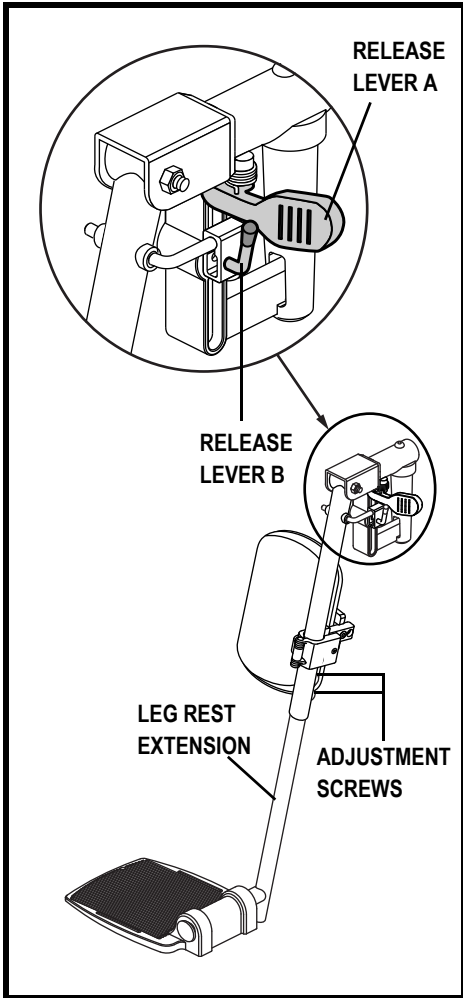

Figure 7. Standard Elevating Leg Rests
1. Push down release lever B. **See figure 7.**
1. Remove the two adjustment screws from the side of each leg rest extension. **See figure 7 or 8.**